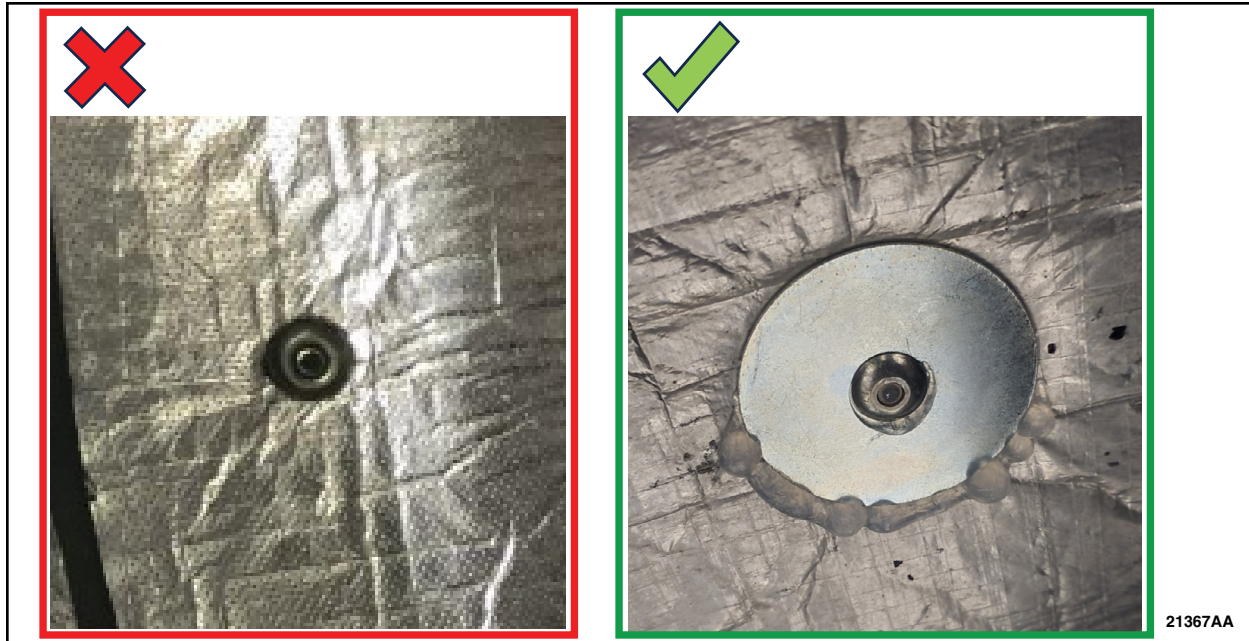

**FIGURE 15**
15. Apply a thick layer of seam sealer to the rivet, and the backside of the washer. See Figure 15.